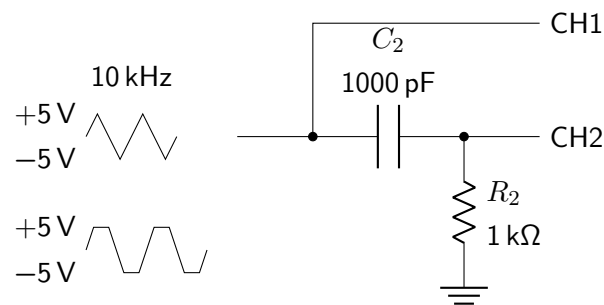

Figure 3: Approximate RC differentiator.
- (b) Now rig up the circuit in Figure 3, and drive it with the same 10 kHz triangle wave.